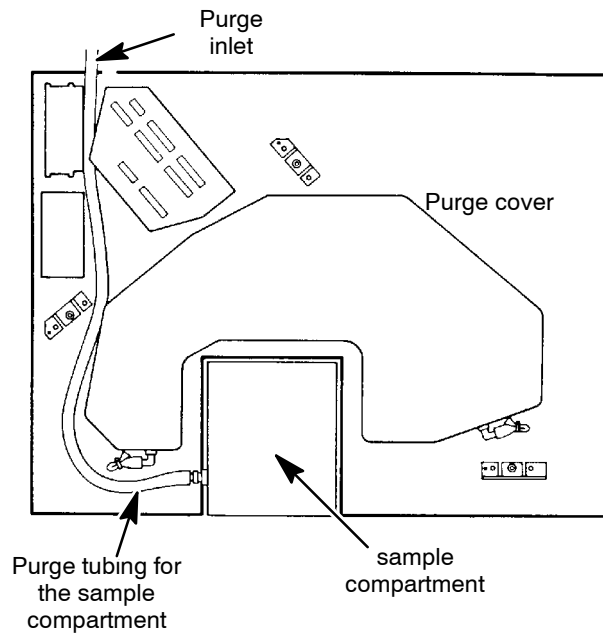

Figure 2-28 Purging the Sample Compartment
- 1 Locate the tubing for sample compartment purge gas, which extends from the rear of the Spectrum RXI (Figure 2-28).